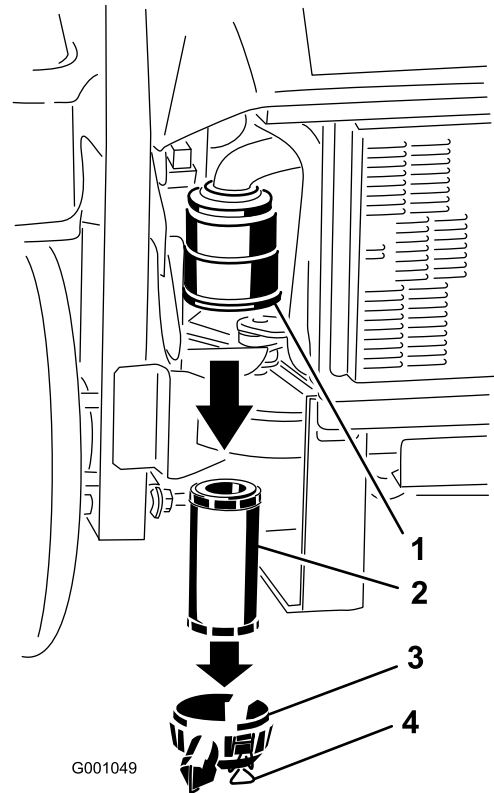

Figure 43
3. Release the latches on the air cleaner and pull the air cleaner cover off of the air cleaner body (Figure 43).
5. Gently slide the filter out of the air cleaner body (Figure 43). Avoid knocking the filter into the side of the body.